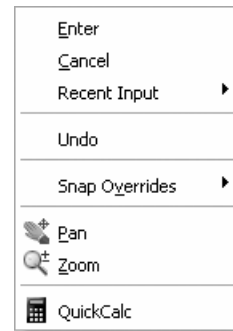

Figure 2-1.6 Right-click Menu; line command active
8. After clicking your second point (i.e., the endpoint), **right-click** anywhere on the screen and select **Enter** from the pop-up menu. (Figure 2-1.6)